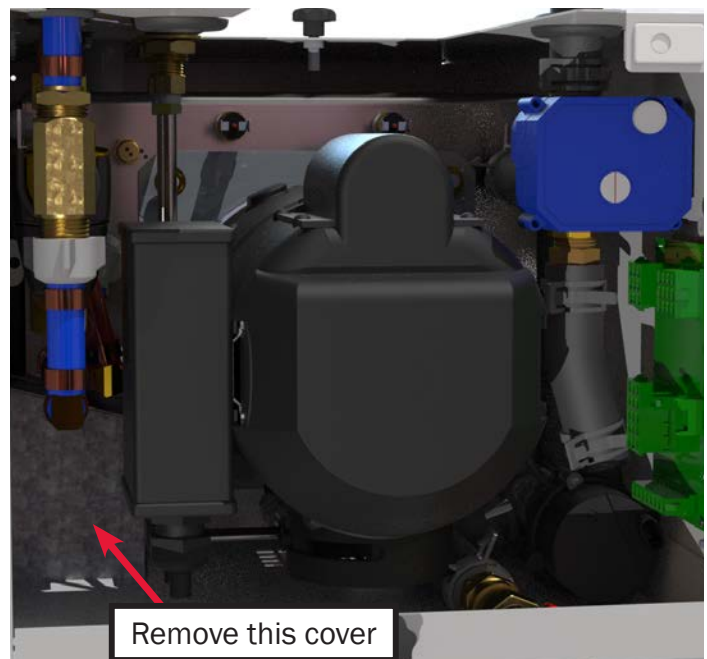

Figure 60
6. Remove the AC access cover to gain access to the relay. See Figure 60.